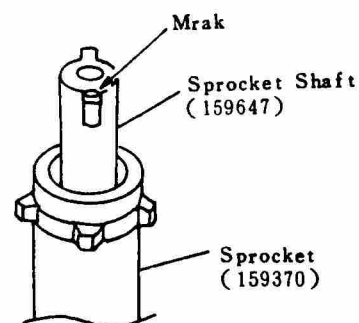

Fig 29
- Insert the Sprocket Shaft (159647) to the Sprocket (159370) in the position as shown (Fig 29) and set in into the camera body while mark of Sprocket Shaft is face of film rail plane. Insert the Sprocket Spring (139650) on the Sprocket Shaft.